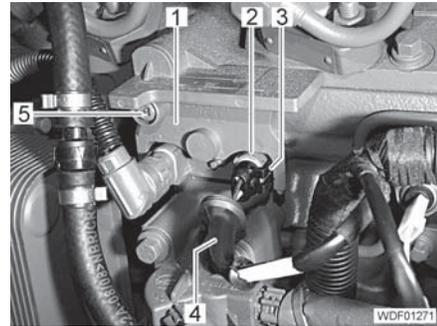

Fig. 44 LDA (alternative)
- Insert the connector (Fig. 44,3) and fix it with a clip (Fig. 44,2).
- Fix the locking plate (Fig. 44,1) with screw (Fig. 44,5).
- Slide on the plug protection (Fig. 44,4).